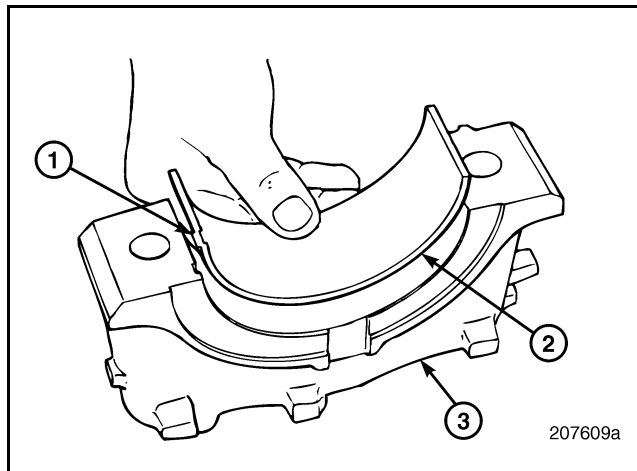

Figure 234 — Main Bearing Installation (Lower)
- Install the bearing insert in the bearing cap bore (Figure 234). The insert must be installed dry.